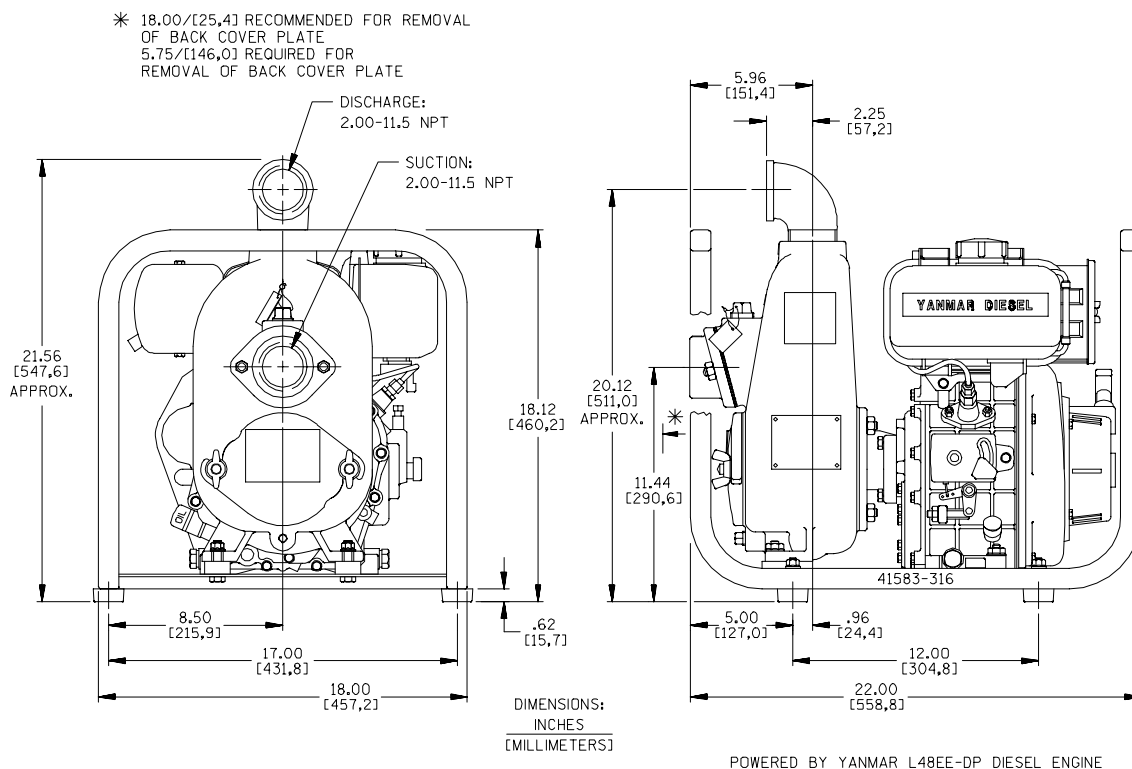

Figure 1. Pump Model 12D1-L48EE
See Figure 1 for the approximate physical dimensions of this pump.
- f. The rubber mounting kit and discharge elbow (see the Parts List, pages E-3 and E-5) were shipped loose with the pump. Refer to Figure 1, page E-2 and install the parts as shown.